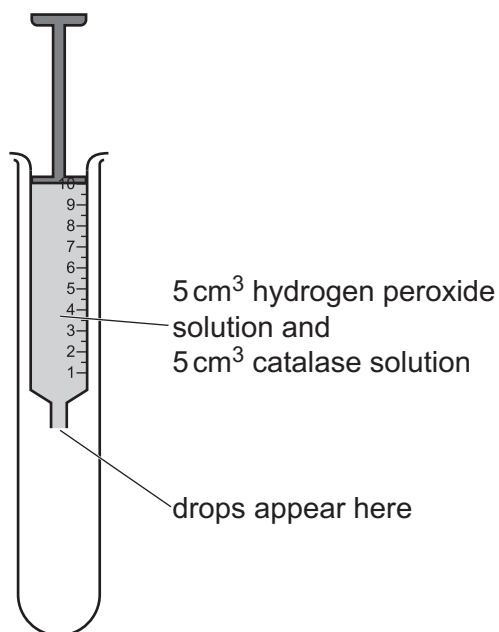

Fig. 1.1
step 5 Place the syringe in the large test-tube labelled **100.0%**, as shown in Fig. 1.1.